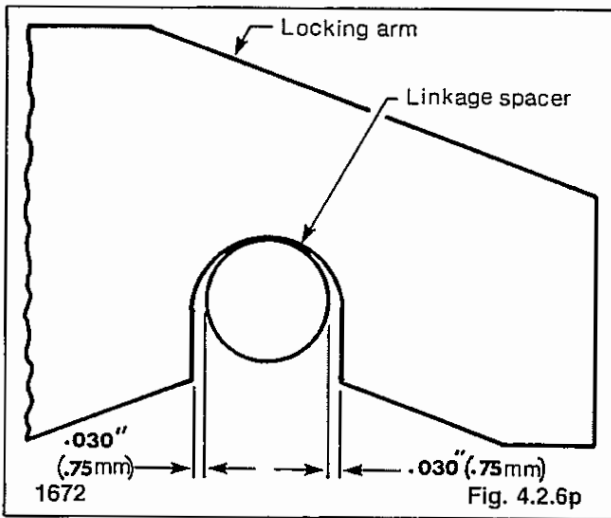

Fig. 4.2.6p
14. To prevent accidental control valve spool movement and accommodate for linkage wear the linkage is adjusted so that there is a maximum of .030 in. (.75 mm) clearance on both sides of the linkage spacer and locking arm (fig. 4.2.6p).